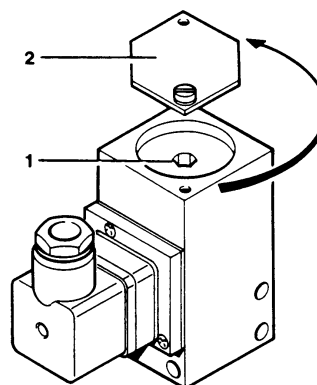

Fig. 49 Final pressure switch
In case of readjustment becoming necessary, open cover (2, Fig. 49). Adjust screw (1) to the required pressure using a 6 mm allen key.